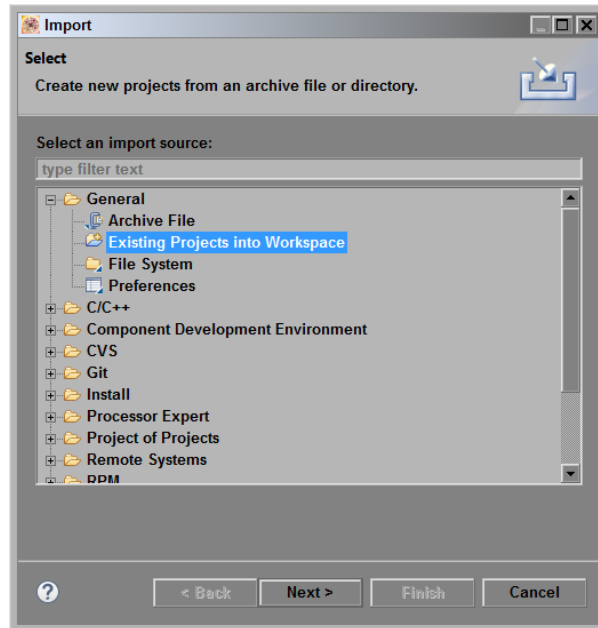

Figure 17. KDS—importing project
- The “Import” window opens. Highlight “Existing Projects into Workspace” in “General” folder, and click “Next” (Figure 17).